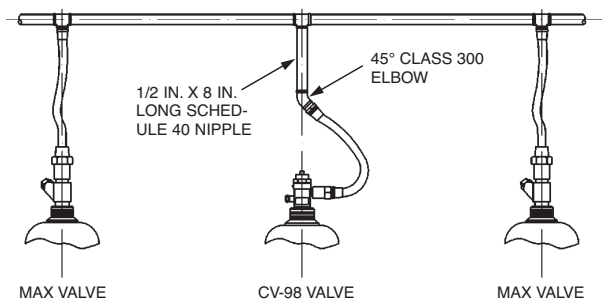

FIGURE 1
12. Install the cylinder in its bracket. If the original system consists of a MAX valve, refer to Figure 1 for guidance to convert the manifold to accept a CV-98 cylinder valve.